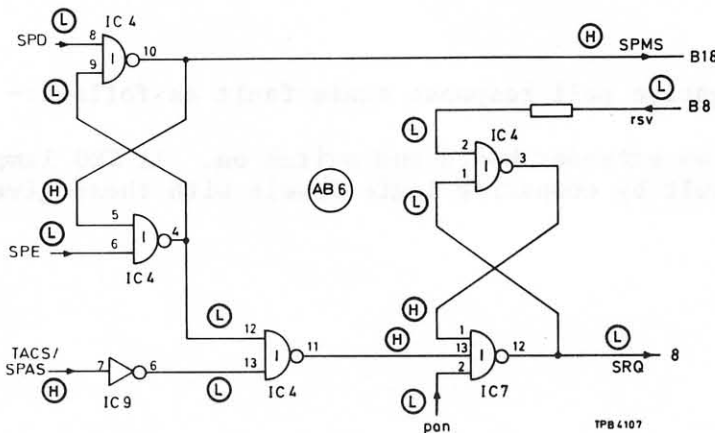

Fig. 7 'SPE fault' logic levels
- (1) Place AB6 on extender board and switch on. Check REN and ATN are at 1 and switch analyser back to TALK. Set DIO lines to MLA and press EXECUTE.
- (2) Set ATN to 0 and press EXECUTE to send faulty data. Check SRQ lamp comes on.
- (3) Set ATN to 1. Set DIO lines to MTA and press EXECUTE.
- (4) Set DIO lines to 00011000 (SPE). Check IC4 pin 6 for positive pulse each time EXECUTE is pressed. If not, go to 'Data input and message decoder fault'.
- (5) Set analyser to LISTEN and localize fault by comparing logic levels with those shown in Fig. 7.